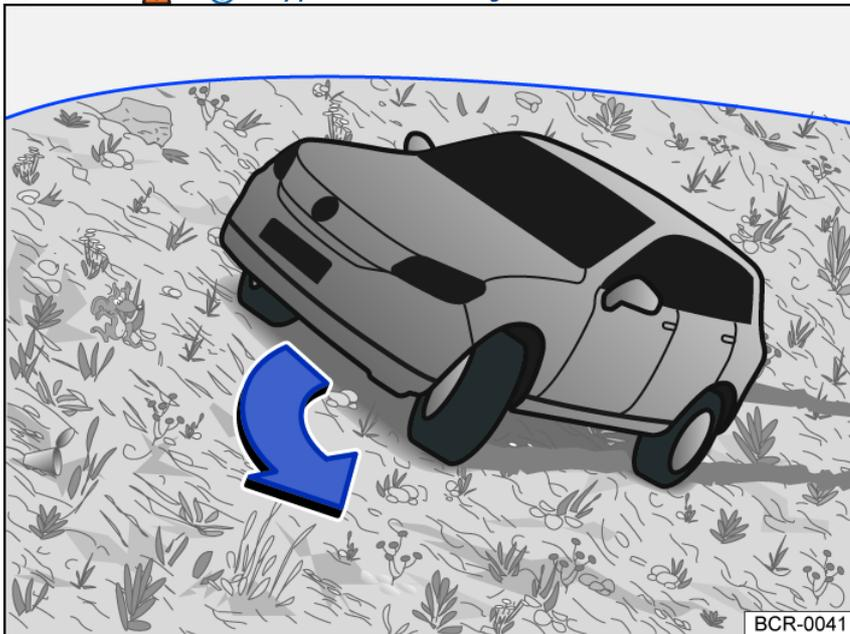

Fig. 126 General example: steering downhill along the fall line.
- If it seems the vehicle is about to tip, immediately steer toward the downhill direction and accelerate lightly *fig. 126*. If it is not possible to steer downhill, steer uphill and accelerate lightly.
- Before driving at an angle on a hill, make sure that you can steer toward the fall line. If that is not possible, then choose another path. If it seems the vehicle is about to tip, immediately steer toward the downhill direction and accelerate lightly *fig. 126*.